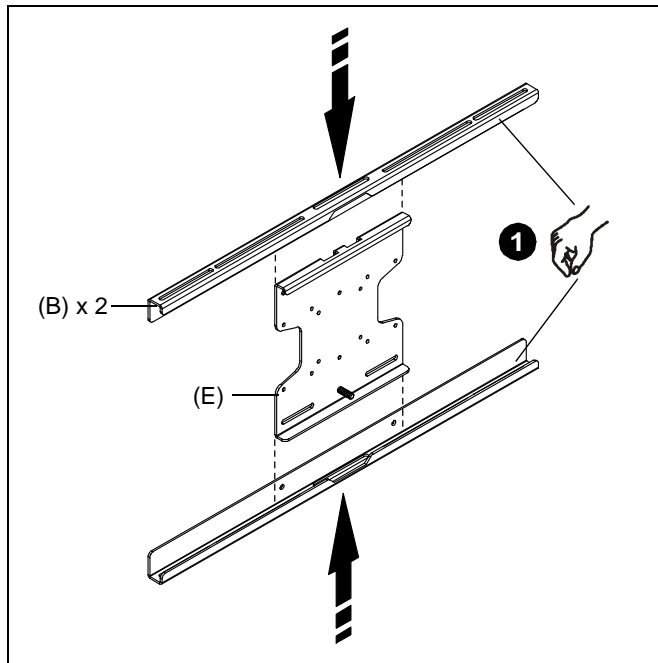

Figure 7
1. Align faceplate brackets (B) with faceplate (E) and slide into position. (See Figure 7)